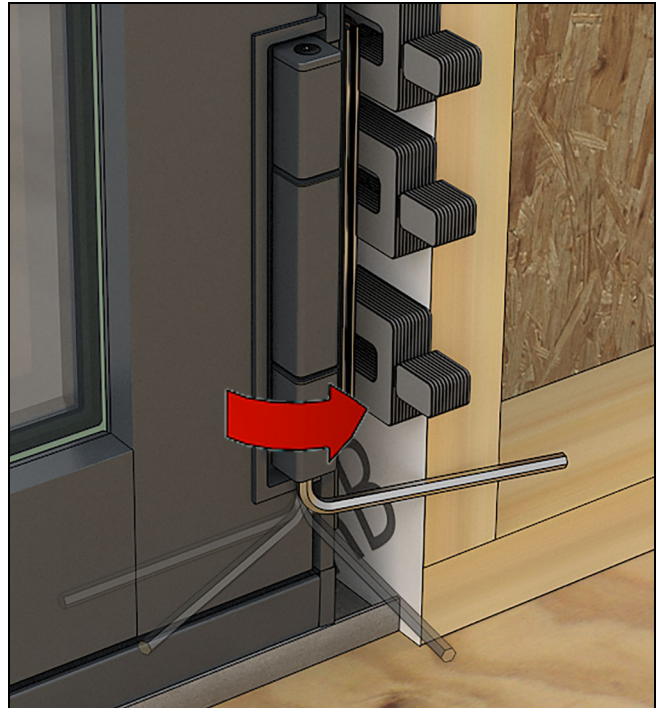
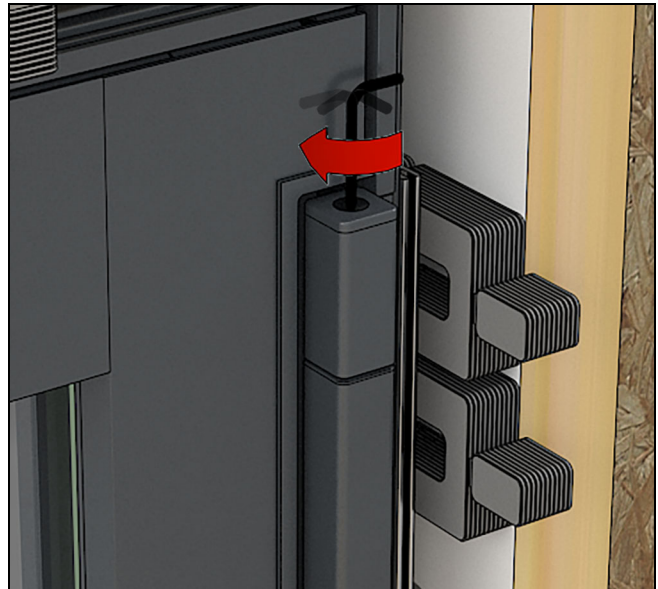

Figure 78
Figure 79
3. On the bottom of each hinge use the 6mm hex wrench to adjust the hinge height. Turning the set screw clockwise will raise the hinge. See Figure 78 and Figure 79.